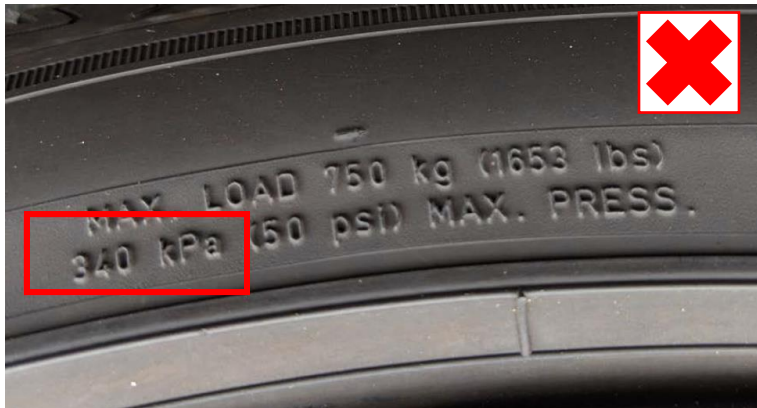

Figure 2 – Not OK specified pressure (340 kPa)
- a. If the above-mentioned tires have a **340 kPa (50 PSI)** (**Figure 2**) inscription on the side wall: Perform **Work Procedure**.